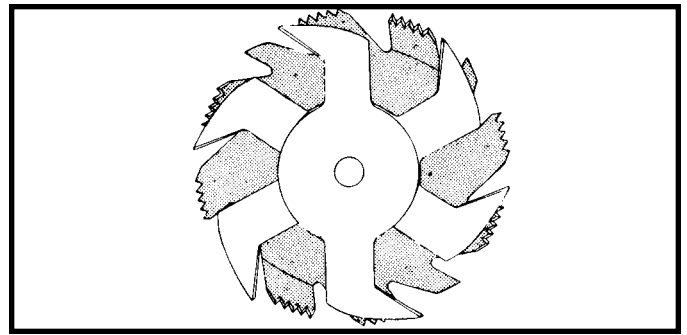
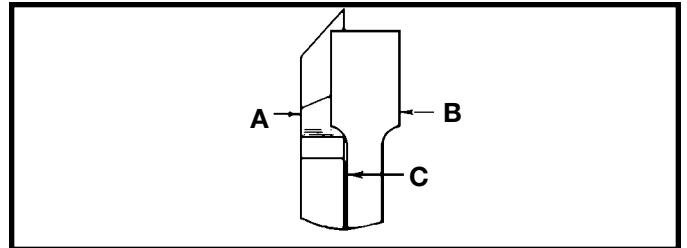

Fig. 144
Fig. 145
Dadoing is cutting a rabbet or wide groove into the work. Most dado head sets are made up of two outside saws and four or five inside cutters, as shown in Fig. 143. Various combinations of saws and cutters are used to cut grooves from 1/8" to 13/16" for use in shelving, making joints, tenoning, grooving, etc. The cutters are heavily swaged and must be arranged so that this heavy portion falls in the gullets of the outside saws, as shown in Fig. 144. The saw and cutter overlap is shown in Fig. 145, (A) being the outside saw, (B) an inside cutter, and (C) a paper washer or washers which can be used as needed to control the exact width of groove. A 1/4" groove is cut by using the two outside saws. The teeth of the saws should be positioned so that the raker on one saw is beside the cutting teeth on the other saw.